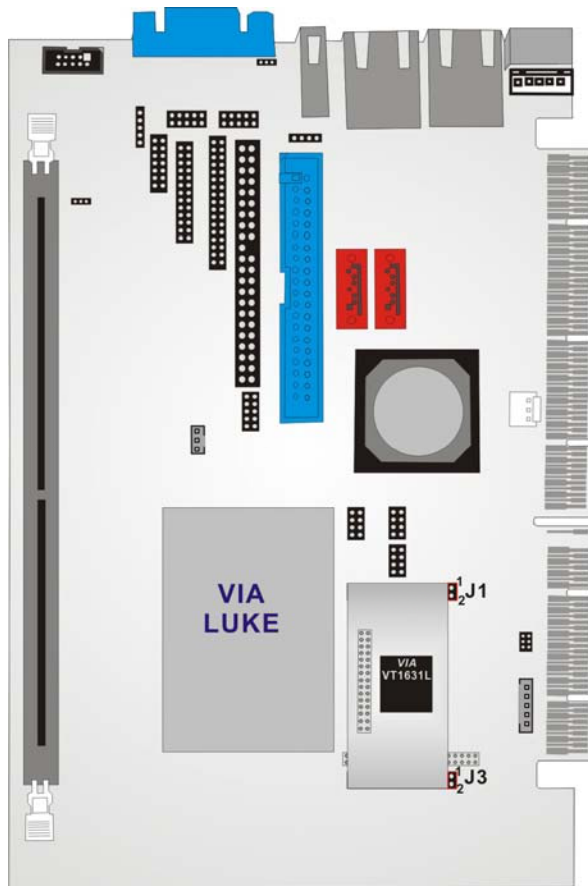

Figure 4-3: 24-bit TTL LCDC LVDS-LUKE-A Connectivity
Step 6: Slide the LCDC LVDS-LUKE-A onto the connectors. Pin 1 and pin 2 on both the J1 and J3 connector should be visible. See **Figure 4-3**.